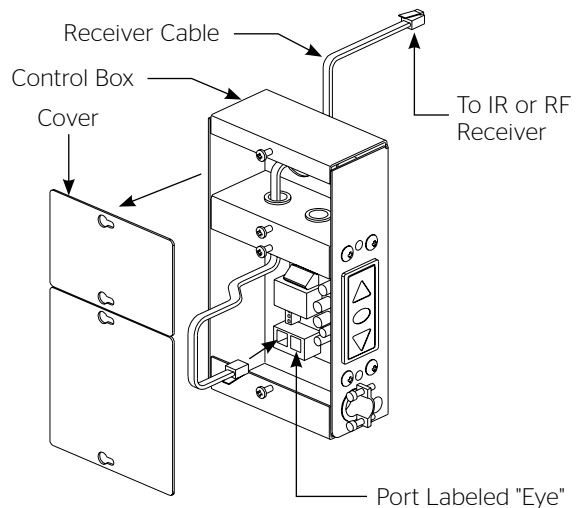

Figure 18
17. Optional Infrared (IR) or Radio Frequency (RF) remote controls are available. To install either remote, remove the Covers from the Control Box. Route the Receiver Cable through the Da-Lift and plastic bushing of the Control Box. Plug the Receiver Cable into the motor control board port labeled "EYE". See Figure 18. Plug IR or RF receiver into other end of Receiver Cable. "Learn" the RF remote and receiver by following the directions supplied with the RF.